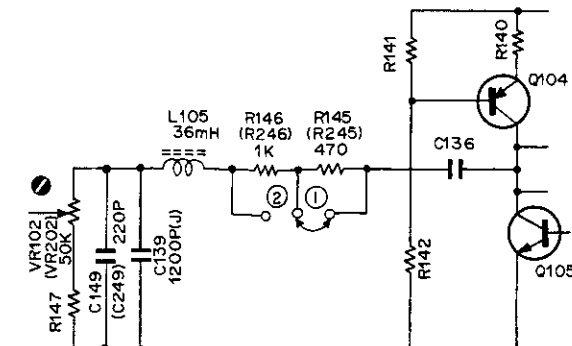

Fig. 7.5
| 9    | Playback Frequency Response | 400 Hz Level Tape (DA09005A)10 kHz PB Frequency Response Tape (DA09003A)15 kHz PB Frequency Response Tape (DA09002A)20 kHz PB Frequency Response Tape (DA09001A) | VTVM to OUTPUT Jacks   | PlaybackTape SW - SXEq. SW - 70 $\mu$ sDolby NR SW - OUTMPX SW - OUT   | Main P.C.B.R146, R246R145, R245      | <ol style="list-style-type: none"> <li>Load the 400 Hz level tape and play it back. Adjust the output level control to a certain level (example 0 dB)</li> <li>Load the 10 kHz, 15 kHz and 20 kHz PB frequency response tapes and adjust the playback head azimuth to give maximum levels on the VTVM with each tape. Short R146 (R246) and/or R145 (R245) to obtain the following level against 400 Hz level tape (normally peaking frequency will be adjusted at 23 kHz or about.). Refer to Fig. 7.5. <ul style="list-style-type: none"> <li>10 kHz -20 dB -1, +2 dB</li> <li>15 kHz -20 dB -1, +3 dB</li> <li>20 kHz -20 dB -1, +4 dB</li> </ul> </li> <li>Conduct step 6 "Playback Head Azimuth Alignment".</li> <li>If above is not sufficient refer to "Playback Frequency Response Adjustment" in item 7.2.1.</li> </ol> |